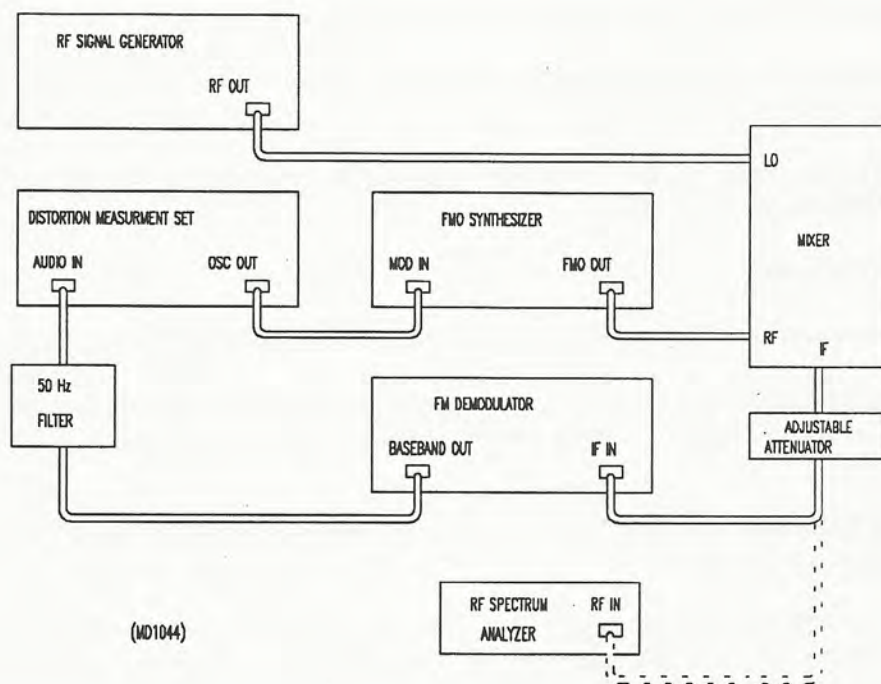

Figure 5-14
1. a. Connect the equipment as shown in Figure 5-14.